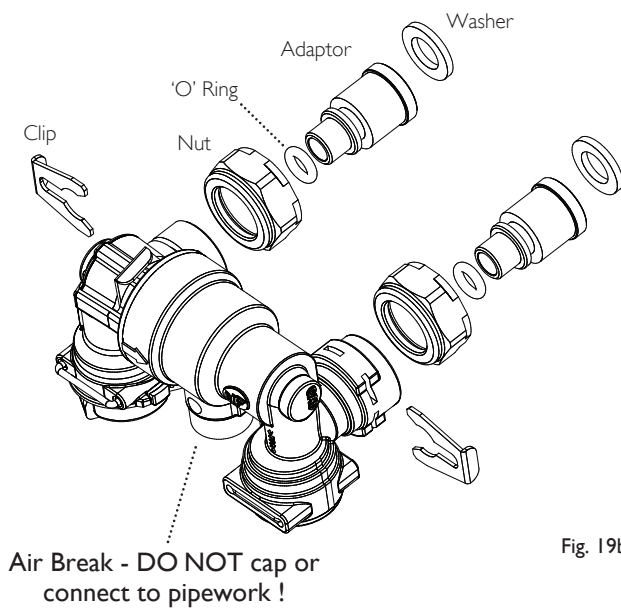

Fig. 19b
3. Fit one of the ‘O’ rings to the male end of each adaptor. Pass each adaptor through one of the nuts as shown (Fig. 19b).
4. Insert the adaptors into the body of the link and secure using the clips (Fig. 19b)